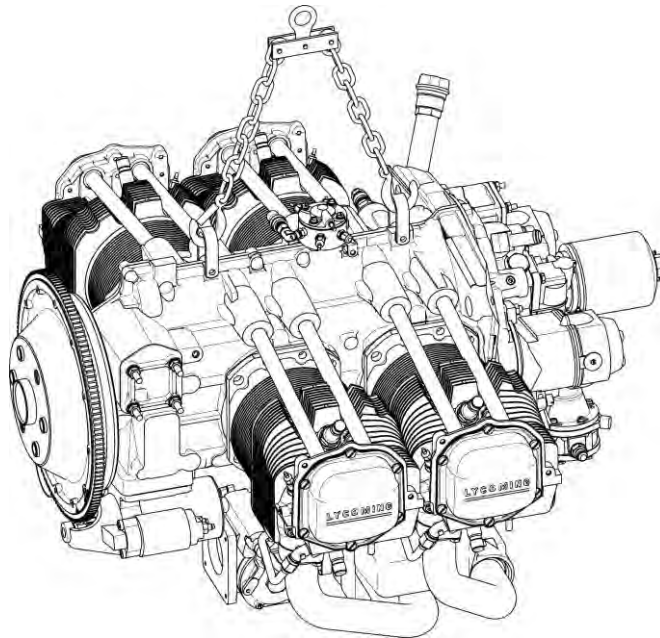

Figure 1
- (6) Apply a cap over oil and fuel lines and connections to prevent spillage and debris from entering the engine.
- (7) Apply tags to identify ports, clips, tubes, wires, etc. for reference to make correct connections during engine installation. Identify the location of each part during removal. Attach a tag to unserviceable parts and units for examination or replacement.
- (8) Disconnect the alternator from the engine.
- (9) Remove all wiring bundle attaching clamps and hardware.
- (10) Remove the manifold pressure gage line and aircraft fuel supply lines in accordance with the aircraft manufacturer's instructions.
- (11) Refer to the aircraft manufacturer's instructions to disconnect any accessory connection or to remove any external accessories to enable removal of the engine from the aircraft.
- (12) Make sure that all wires, lines, and attachments between the engine and airframe are disconnected and capped.
- (13) Attach an engine-lifting cable (with a minimum capacity of 750 lb (340 kg)) to the lifting straps on the engine in accordance with Figure 1.